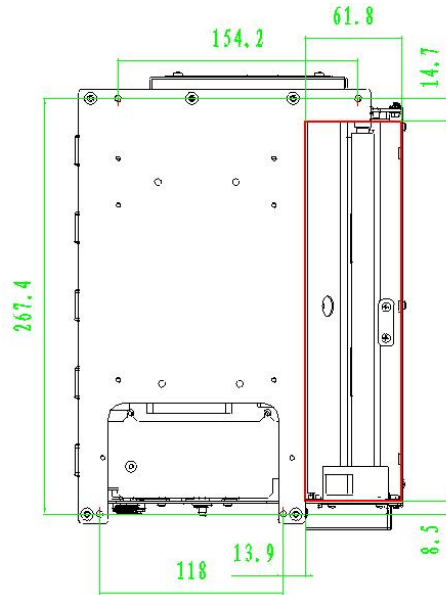

Figure 4.22 Paper retraction outlet
- ◆F: paper backing space. Presenter module waits for the user to take the paper away. If the user does not need the paper , the paper backs to the dustbin of the machine, Paper backing mouth should be left when the machine is fixed (as figure4.22, paper backing mouth is positioned with fixing hole .The hole you design had better be bigger the one in the figure). If your printer doesn't have paper backing function, just neglect this point.